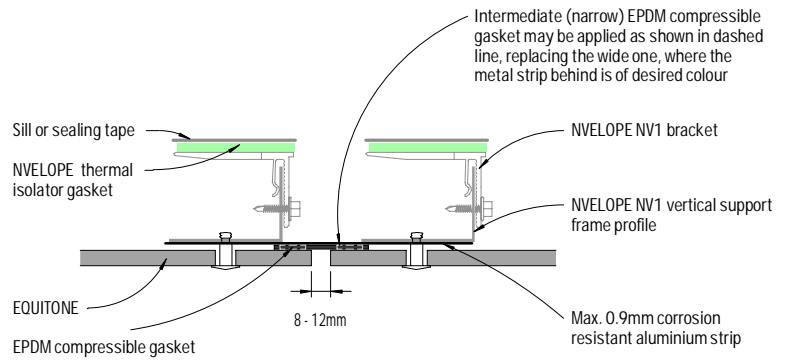

Figure 4: Vertical joint - Detail 2
- 2) In Figure 4 & 5, the aluminium strip should be fixed ONLY to one of the support frame profiles (either left or right) where allowance for horizontal and/or vertical movement of the cladding frame is required.